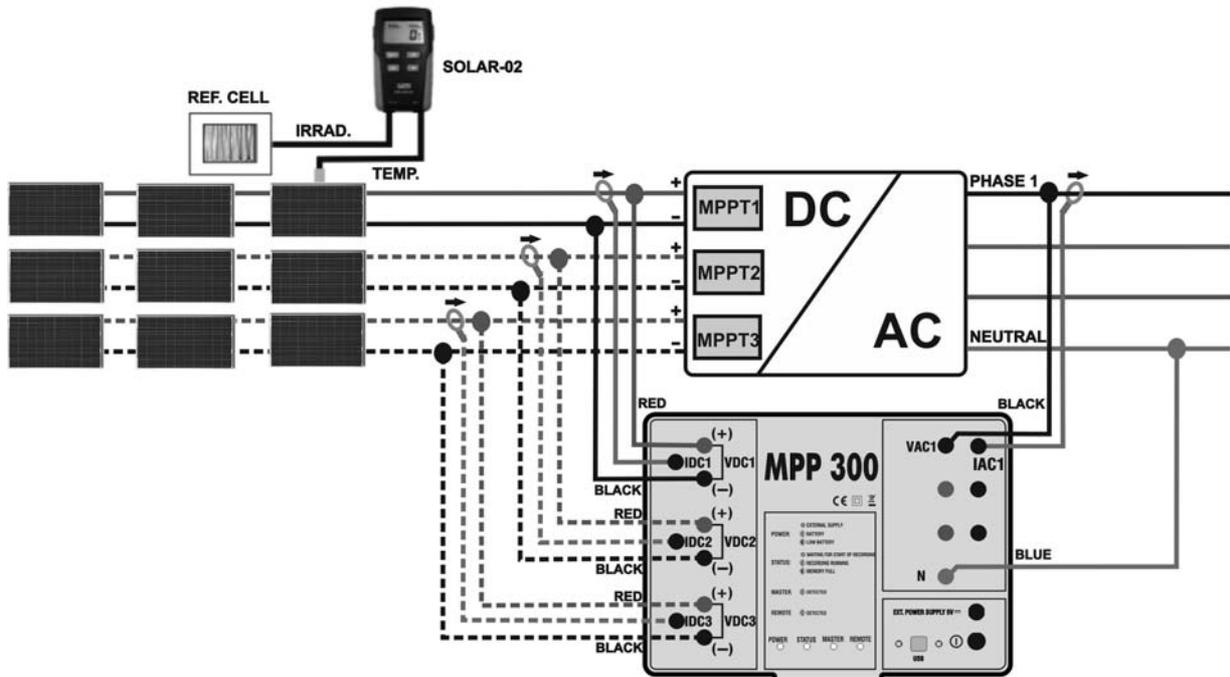
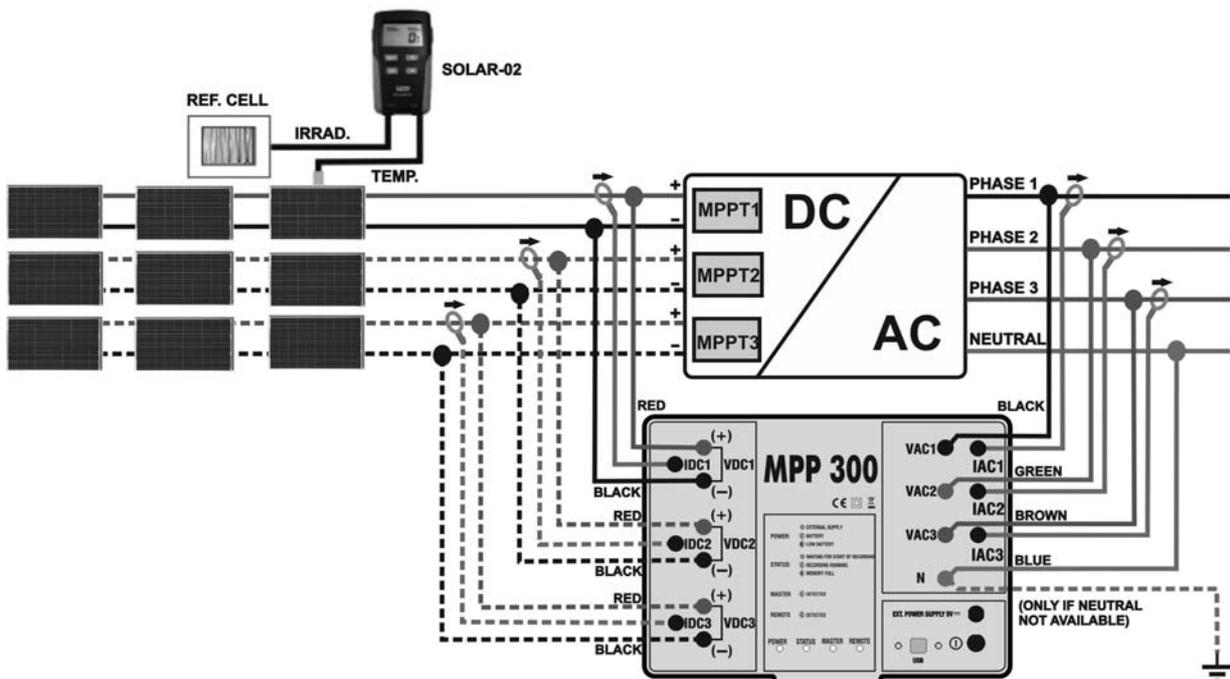

Fig. 252: Connection of MPP300 for testing a single-phase PV system
Fig. 253: Connection of MPP300 for testing a three-phase PV system
7. Connect the **VDC1(+)** and **VDC1(-)** inputs of the **MPP300** unit to the output terminals of the string, paying attention to the polarity and the colours indicated in Fig. 252 or Fig. 253.
10. Insert the DC current clamp onto the positive output conductor of the string, **respecting the direction of the arrow** found on the clamp itself as indicated in **Fig. 252** or **Fig. 253**. Position the clamp toroid as far as possible from the inverter and from the negative output conductor of the string itself.
12. Connect the **VAC1** and **N** inputs of unit MPP300 to the Phase and Neutral conductors respectively, respecting the polarities and the colours indicated in **Fig. 252** or **Fig. 253**. In case of three-phase systems in which no Neutral conductor is available, connect input **N** to earth.
14. Connect the AC clamp to the Phase L1 conductor, respecting the direction of the arrow found on the clamp itself as indicated in **Fig. 252** or **Fig. 253**. Position the clamp toroid as far as possible from the inverter and from the Neutral conductor. Connect the clamp output to the IAC1 input of MPP300.